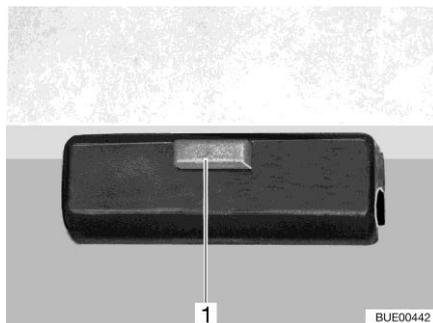

Fig. 97 Lock
- Release the lock (Fig. 97,1) on the table top.